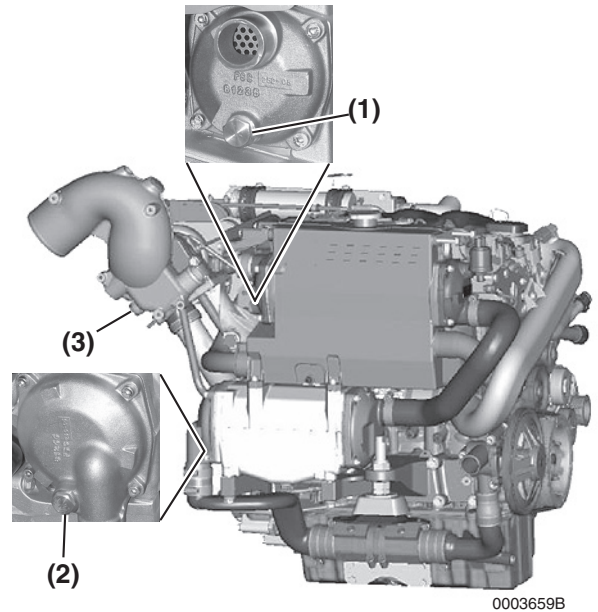

Figure 7-6
Zinc anodes are located in the heat exchanger (**Figure 7-6, (1)**) and the charge air cooler (**Figure 7-6, (2)**).
A zinc anode is also located in the optional high-rise elbow (**Figure 7-6, (3)**).